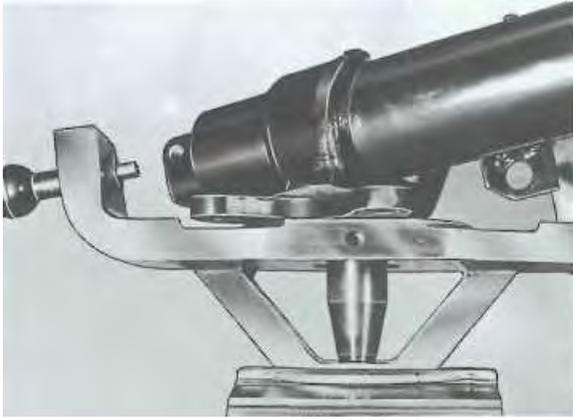

Fig. 7
a. Clamp special tool P 286b in the vise. Push the bearing journal of the suspension or shock absorber strut, with spacer ring in position, into the gage holes on special tool P 286b. (See Fig. 7.)